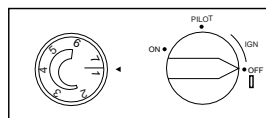

Figure 18 - Dual Control for Thermostat Model FBS-10BB
3. Push in control knob slightly and turn clockwise  to the OFF position (see Figure 18). Be sure that the temperature setting knob is set at the line between level 1 and level 7.
5. Push in and turn control knob counterclockwise  to PILOT position. Press in control knob for five (5) seconds.
7. Press in control knob and turn counterclockwise  past IGN to PILOT (see Figure 18). This will cause the piezo ignitor to spark and light the pilot gas. Keep control knob depressed for 10 seconds before releasing. If needed, repeat steps 5 through 7 until pilot lights.
8. When pilot is lit, turn the ignition knob to ON position (see Figure 18).
9. To select desired heating level, turn the temperature setting knob counterclockwise  between 1 and 7 (see Figure 18).